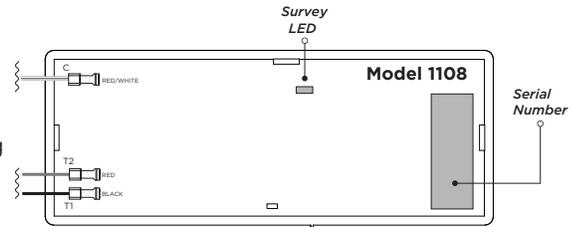

Figure 2: PCB Features
8. At **SERIAL#**, enter the eight-digit device serial number. Refer to Figure 2 for serial number location.
- For 1108 PCB details and terminal numbers, refer to Figure 2.